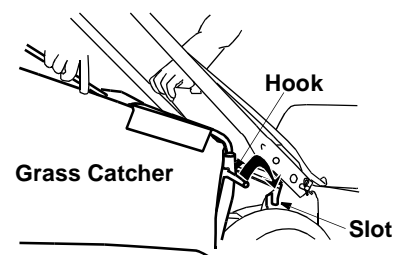

Figure 9
- Holding the grass bag firmly, place the bag on the mower as shown in Figure 9.
- Place hooks, located on two sides of the grass catcher frame, in the slots on the handle brackets. See Figure 9. Release the chute door.